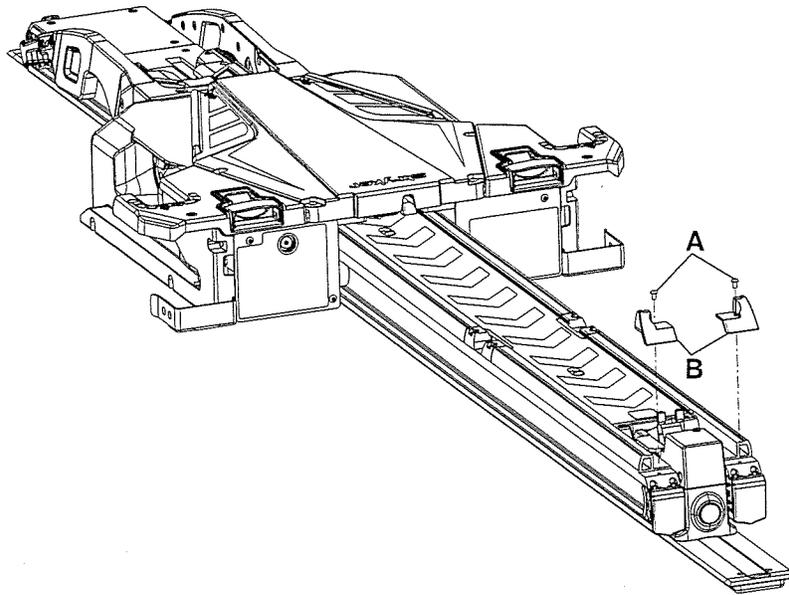

Figure 17: Attach head end trim
30. Using a T25 Torx driver, install the two supplied button head cap screws (0004-665-000) (A) to attach the supplied patient left transfer head end trim (6390-001-210) and supplied patient right transfer head end trim (6390-001-211) (B) to the transfer assembly (Figure 17 on page 25).